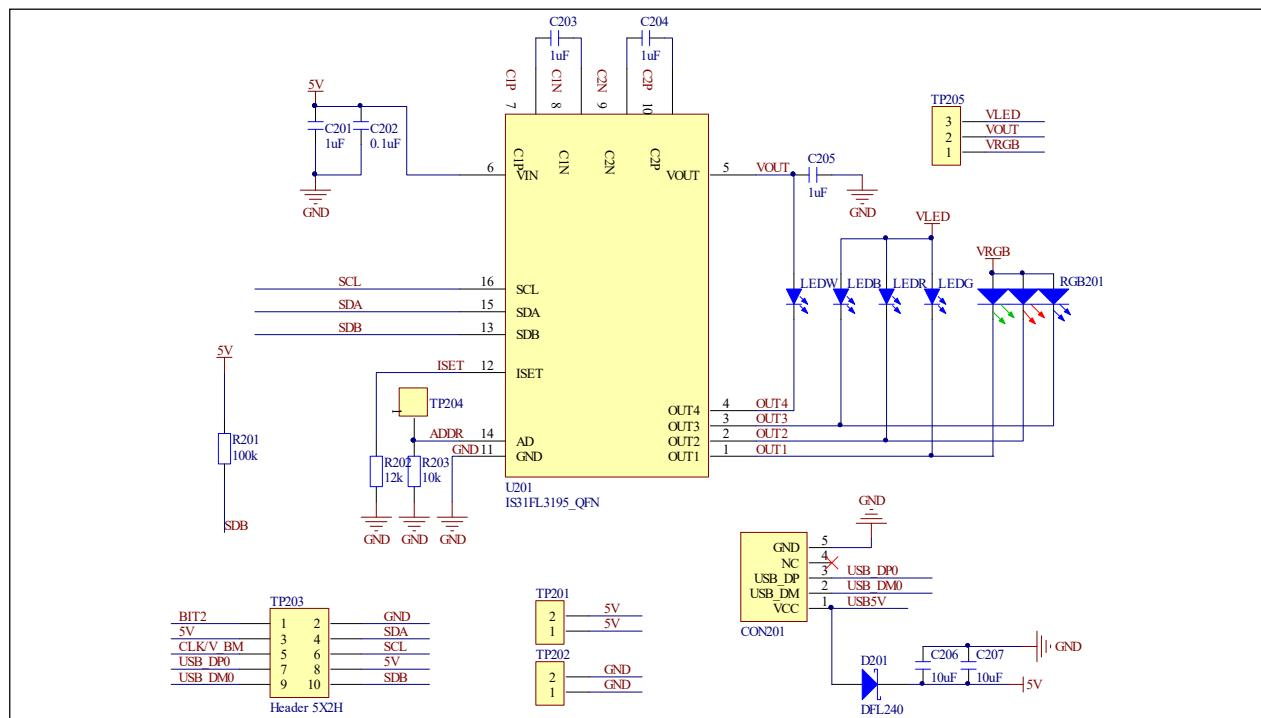

Figure 4: IS31FL3195 Schematic
*Bill of Materials, refer to Figure 4 above.*